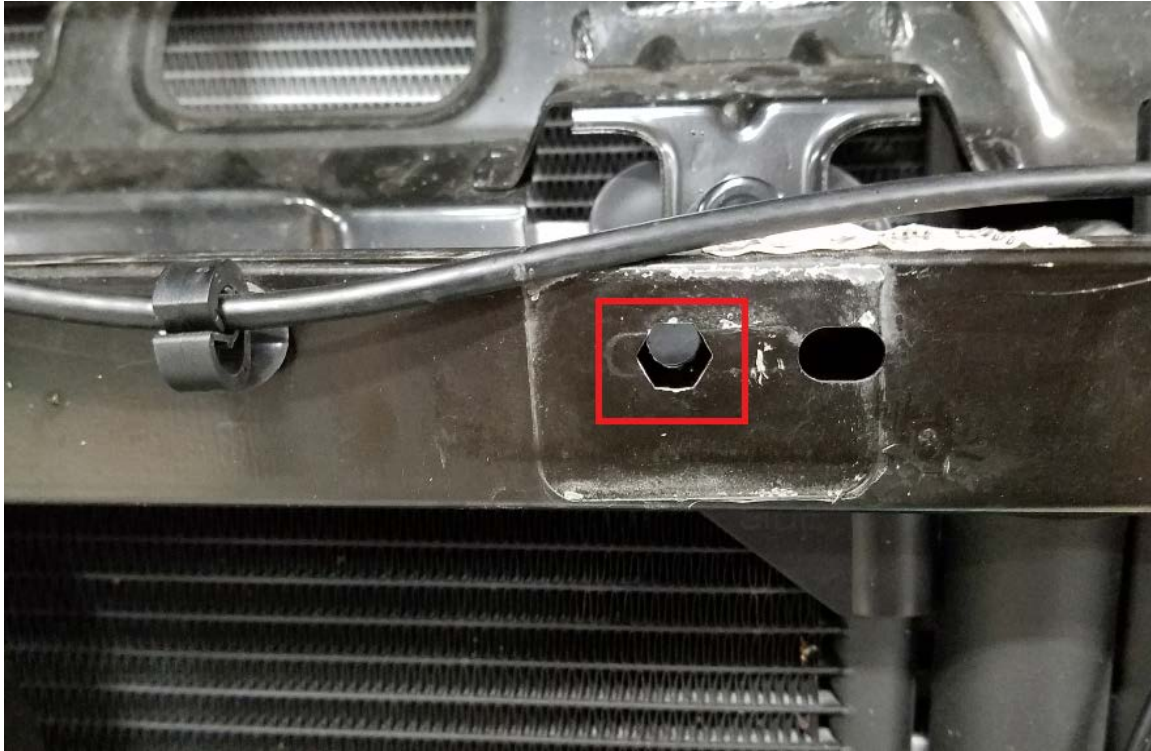

Figure 12
**L. Drill a hole through the hexagonal holes in the metal frame for a 1/4" bolt (figure 12). There may or may not be a**